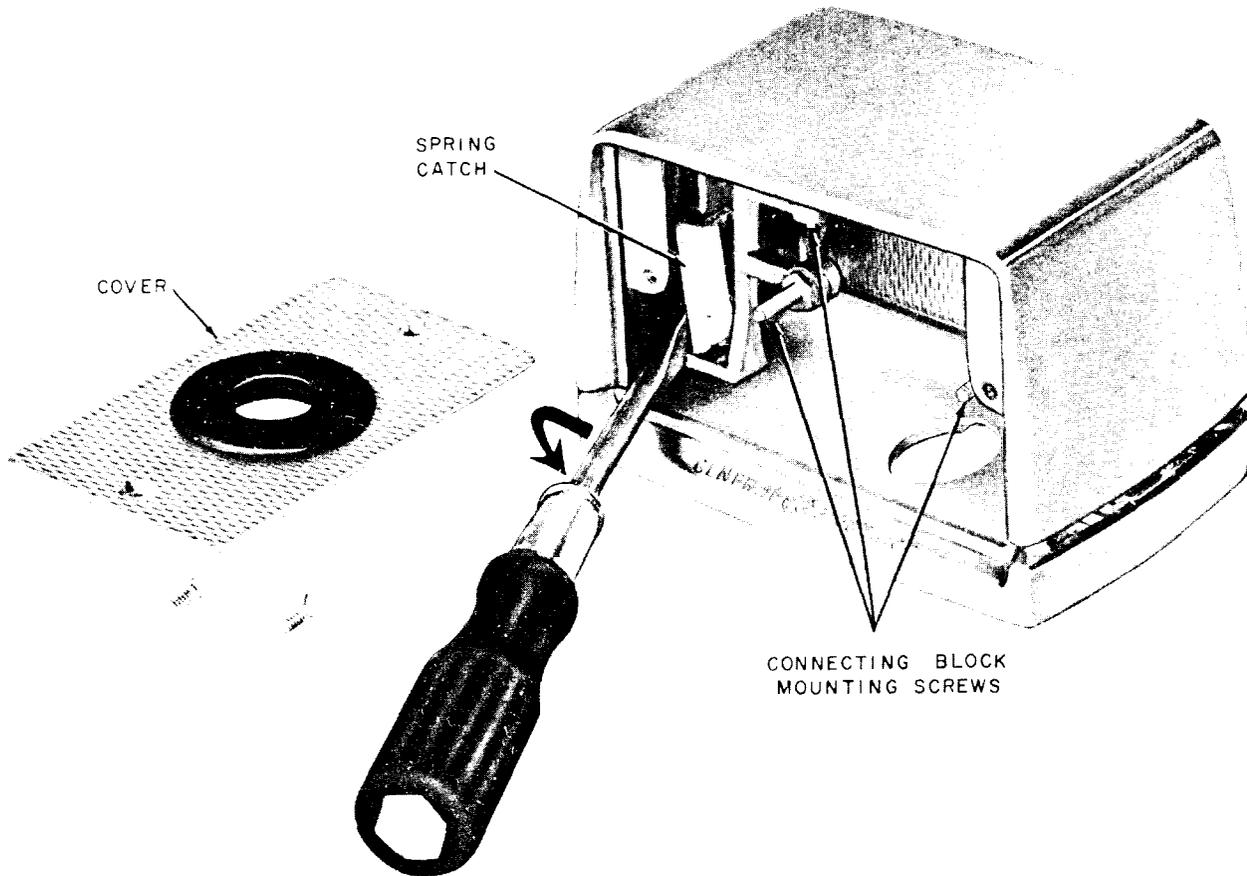

Fig. 8—General Electric SP401 Outlet—Removing Housing
5.13 The General Electric SP401 outlet (Fig. 8) consists of a base, housing, and two covers.
- (1) Remove front cover. Remove housing by releasing two spring catches as shown in Fig. 8 and lifting upward.
- (2) Fish conduit wiring to the outlet.
- (3) Mount one to three 44-type connecting blocks using hardware furnished with base.
- (4) Place cover on station mounting cord and connect cord and conduit wiring in standard manner.
- (5) Place housing on base and secure by pressing downward until spring catches engage. Replace cover using screws provided.